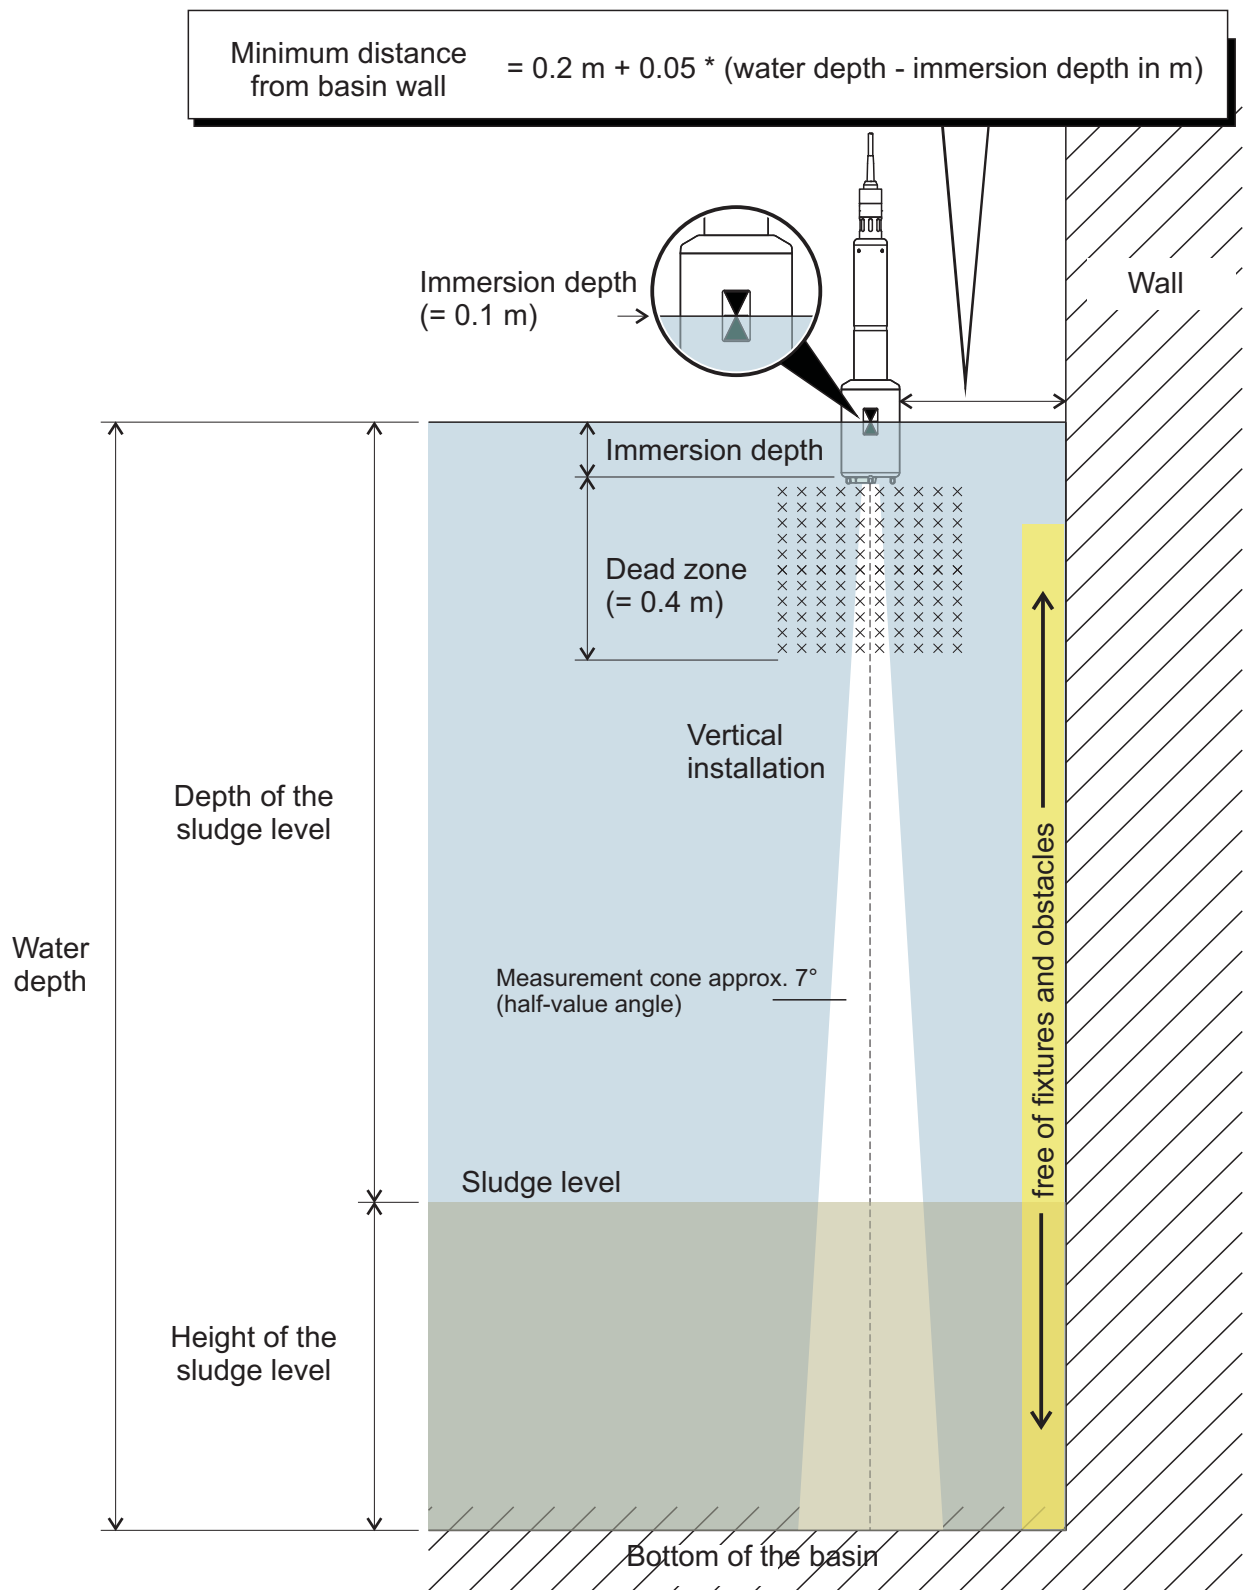

Fig. 3-1 Ideal installation environment
- Sufficient distance from the basin wall (minimum distance, see formula in Fig. 3-1).